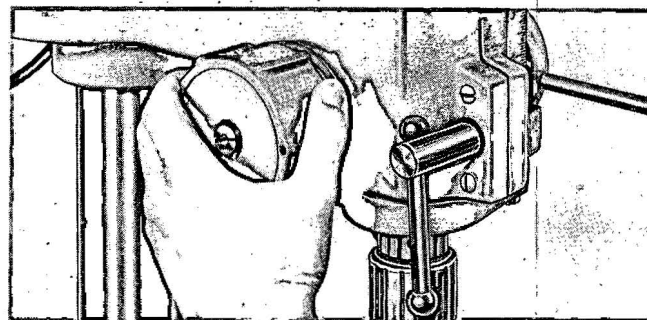

Figure 3
To increase tension, lower quill to bottom of stroke, turn the spring cap counter-clockwise. To release tension, pull out spring cap (fig. 3) and turn clockwise.
1. Release spindle return spring tension (fig. 3).